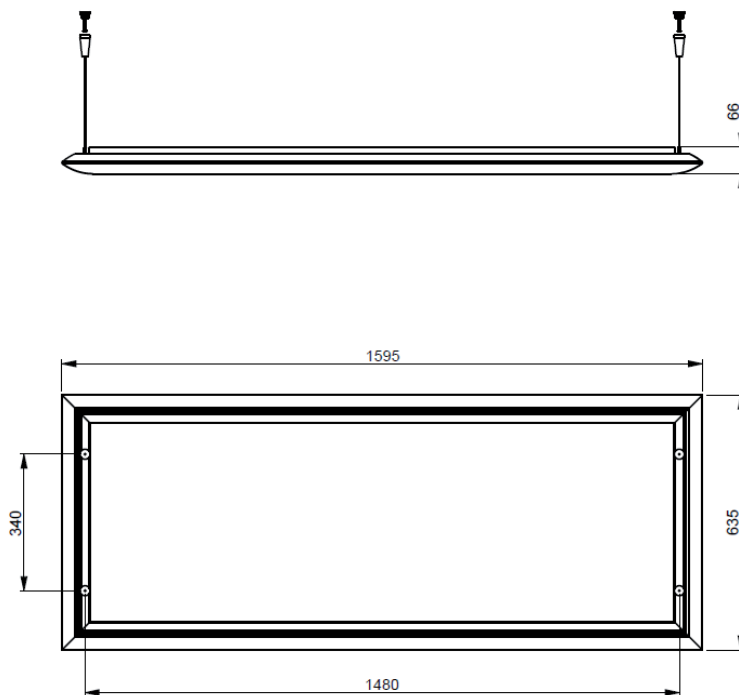

Fig. 1
- Drill the ceiling at the required position with a suitable bit (for heights, see 3.1-fig.1) and insert the plugs.